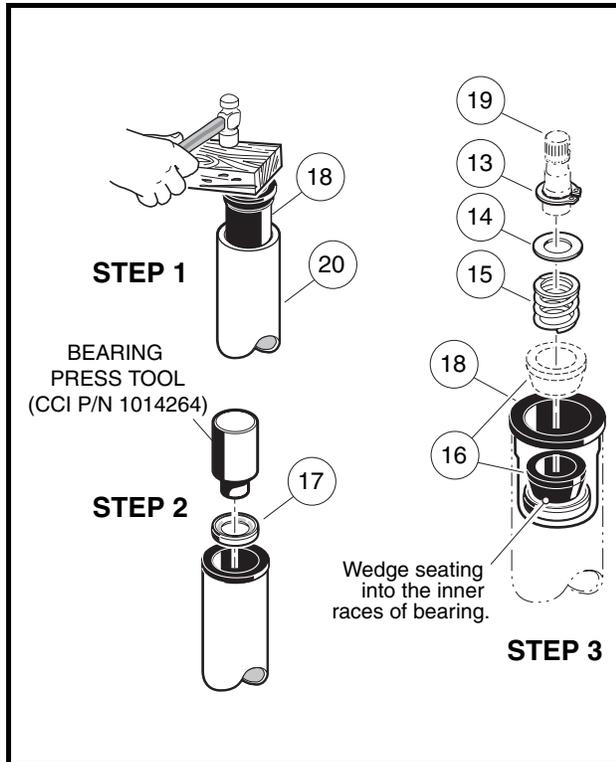

Figure 7-5 Steering Shaft – Bottom End
1. Insert bearing seat (18) into both ends of steering tube (20). Place a block of wood on bearing seat and tap lightly on block until bearing seat (18) is fully seated in steering tube (20) (**Figure 7-5, Page 7-6**).
2. Press the bearing (17) all the way into the bearing seat (18) using a steering column bearing press tool (CCI P/N 1014264) or a metal tube approximately six inches (15.2 cm) long with a maximum outer diameter of 1-3/16 inches (3.3 cm) and a minimum inside diameter of 7/8 inch (2.2 cm). Be sure the bearing is installed in the bearing seat as shown (**Figure 7-5, Page 7-6**) so the wedge (16) will ride against the inner race of the bearing.
3. Install the wedge (16), spring (15), washer (14), and snap ring (13) onto the bottom end of the steering shaft (19) (**Figure 7-5, Page 7-6**).